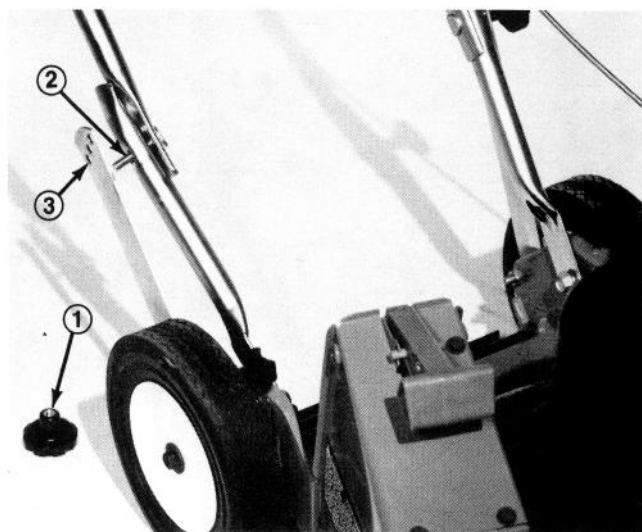

Figure 2
1. The handle is adjustable to three different height positions for operator comfort. Loosen one knob and remove other knob from opposite side of handle. Align threaded stud on side of handle with hole in handle latch (Fig. 2), spring latch inward and allow latch to slip over stud.